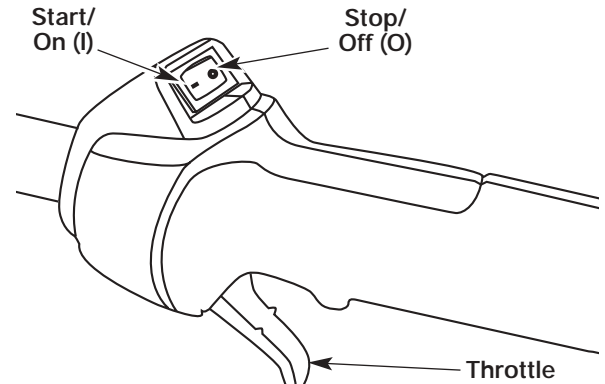

Fig. 3
2. Make sure the On/Off Stop Control is in the ON (I) position (Fig. 3).
2. Put the On/Off Stop Control in the OFF (O) position (Fig. 3).